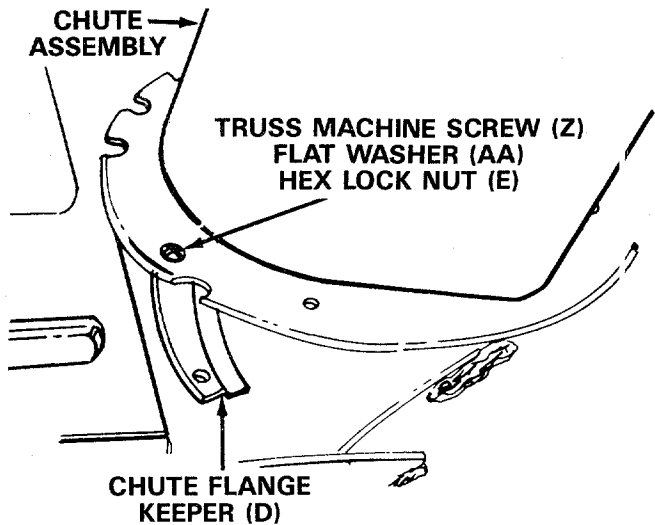

FIGURE 3
3. Place chute assembly over chute opening, with the opening in the chute assembly facing the front of the unit. Place chute flange keepers (D) beneath lip of chute assembly. Secure with truss machine screw (Z), flat washers (AA) and hex lock nuts (E) as shown in figure 3. Tighten with a 7/16" wrench, then back off 1/4 turn to allow easier movement.